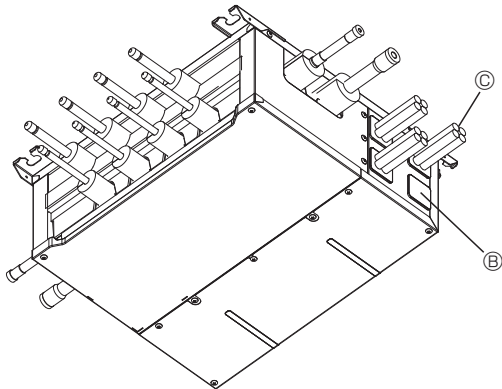

Fig. 7-3
- (3) Slit the rubber bushes, pass each wire through the rubber bushes. (Fig. 7-3)